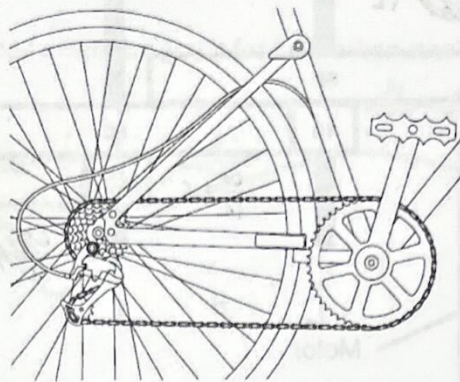

Figure 1
1. **Figure 1** shows the chain and sprocket drive used on the rear wheel of the folding bicycle. Several rear sprocket sizes are provided, allowing the rider to change gear whilst riding. The smallest rear sprocket is selected for the maximum speed.